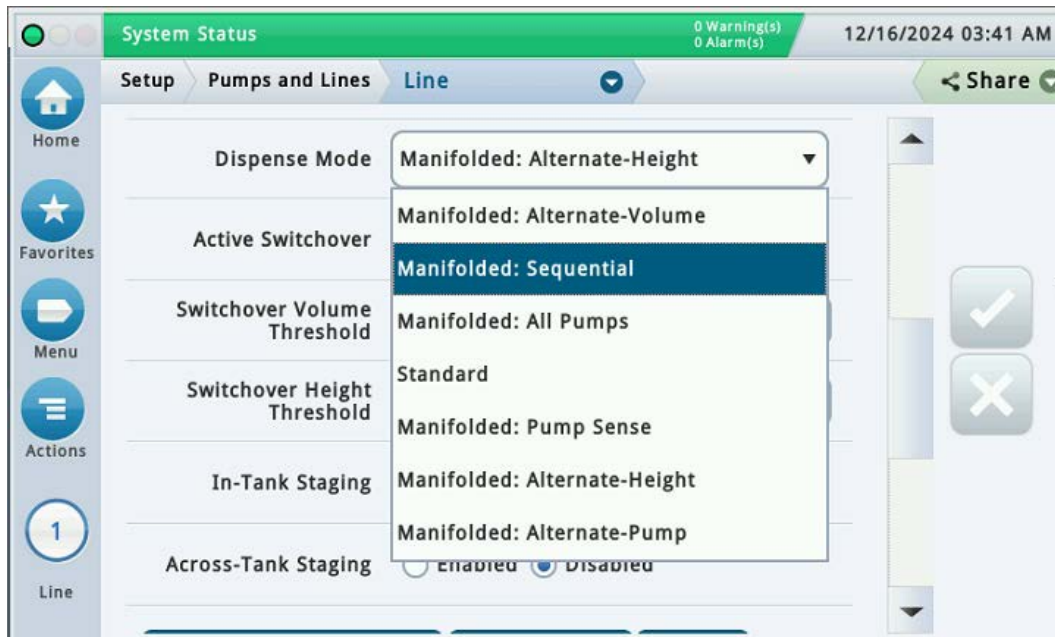

Figure 28. Line Setup Screen - Page 2
3. Select a Dispense Mode [Only enabled if Manifolded field is set to "Yes"]. For IPC requirements, page 2 of the Line screen lets you select the Dispense Mode and Staging Methods for multiple pumps on the line (see Figure 28). The Dispense Mode determines the order in which pumps are activated on a line. The staging method determines which pumps will provide additional pump capacity for a line when requested. Pumps can be designated to be in a Primary/Secondary configuration or can be selected to alternate.